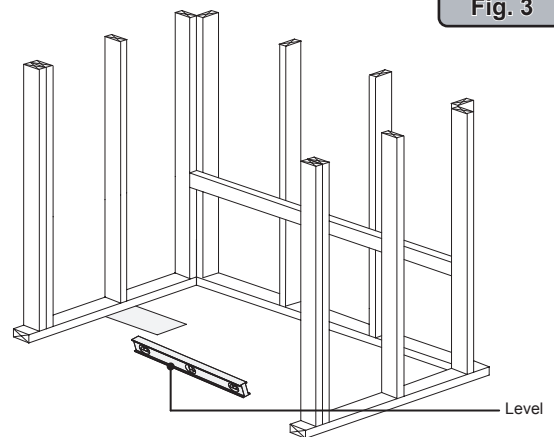

Fig. 3
- ① Make sure framed-in alcove is of proper size per Jacuzzi dimensions, square, and plumb; check floor for levelness (Figure 3). Rough-in should be kept to a minimum until the unit is on the job site. Measurements may vary +0 or -3/8" from original specifications.
- ② Sufficient clearance must be provided for access to service connections (pump/motor, controls, heater plumbing and electrical hook ups).